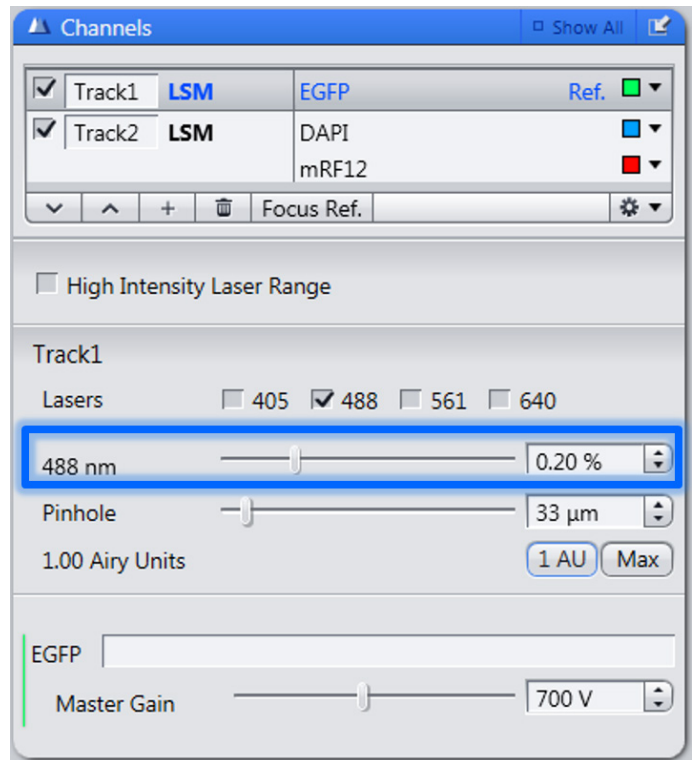

Fig. 22 Adjustment of laser intensity in the Channels menu window
- For this purpose, use the **control slider for laser power** of the corresponding fluorescence channel (Fig. 22) and adjust the intensity of the laser while the continuous scan is being made (see above).